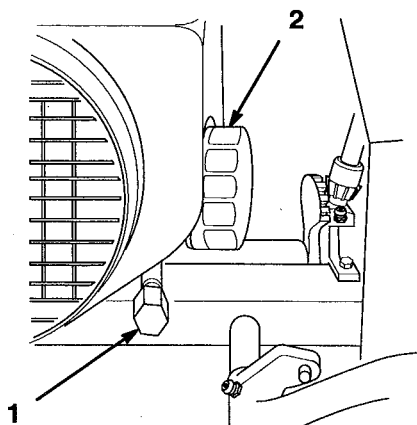

Figure 19
4. Place a pan below the oil drain. Open the drain by removing the cap (Fig. 19).